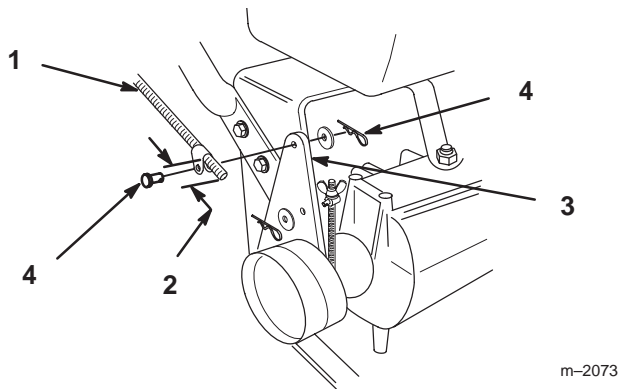

Figure 9
1. Thread rod fittings equal distance onto each control rod. For a starting point thread on approximately 2 in. (51 mm) (Fig. 9).
- Slide clevis pins through rod fittings and mounting holes in idler brackets (from outside) (Fig. 9). Secure with washers and hairpin cotters (Fig. 9).